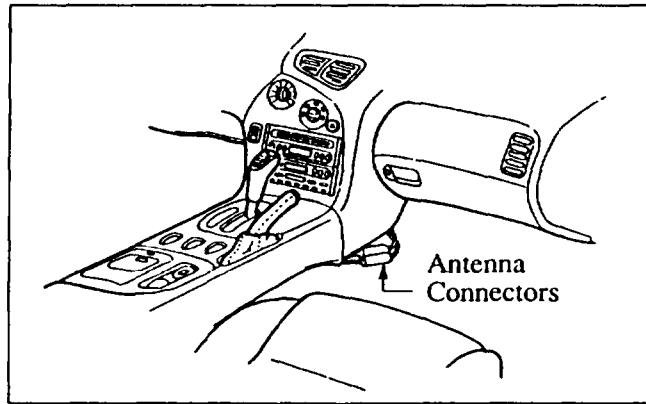

Figure 2: Exposing Antenna Connectors
3. Fold back the carpeting and pull down the antenna connectors. **Figure 2.**